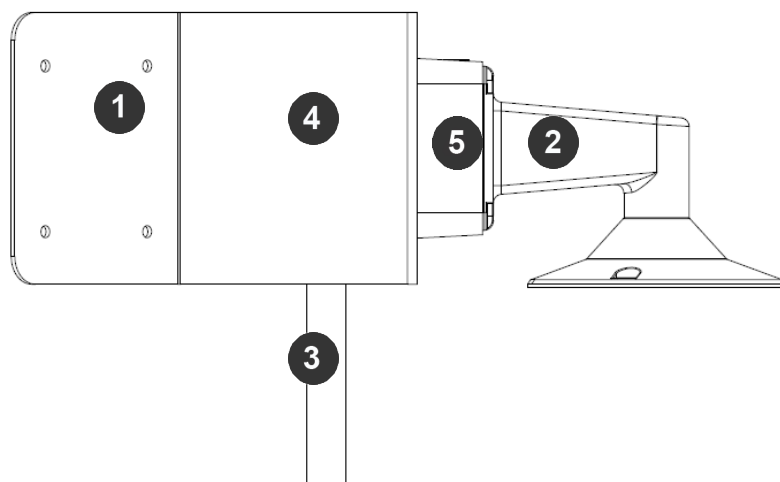

Figure 17: Attach AV-SWMJB wall mount adapter to AV-CRMA exterior corner wall
6. Attach the Wall Mount Adapter (AV-SWMJB) to the Corner Mount Adapter (AV-CRMA) as shown in Figure 17.